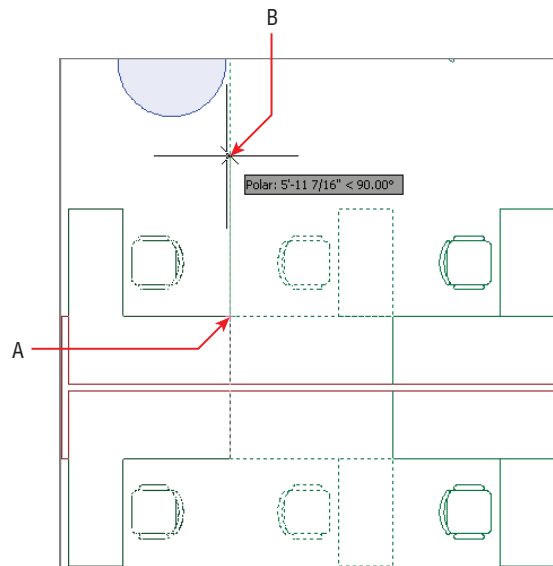

FIGURE 4.26 Mirroring furniture blocks
5. Zoom into the furniture system that is missing two desks in the upper-right quadrant of the building. Click the **Mirror** tool in the **Modify** panel. Make crossing and individual line selections to select the desks and chairs shown in Figure 4.26, and press Enter. The command line reads as follows: